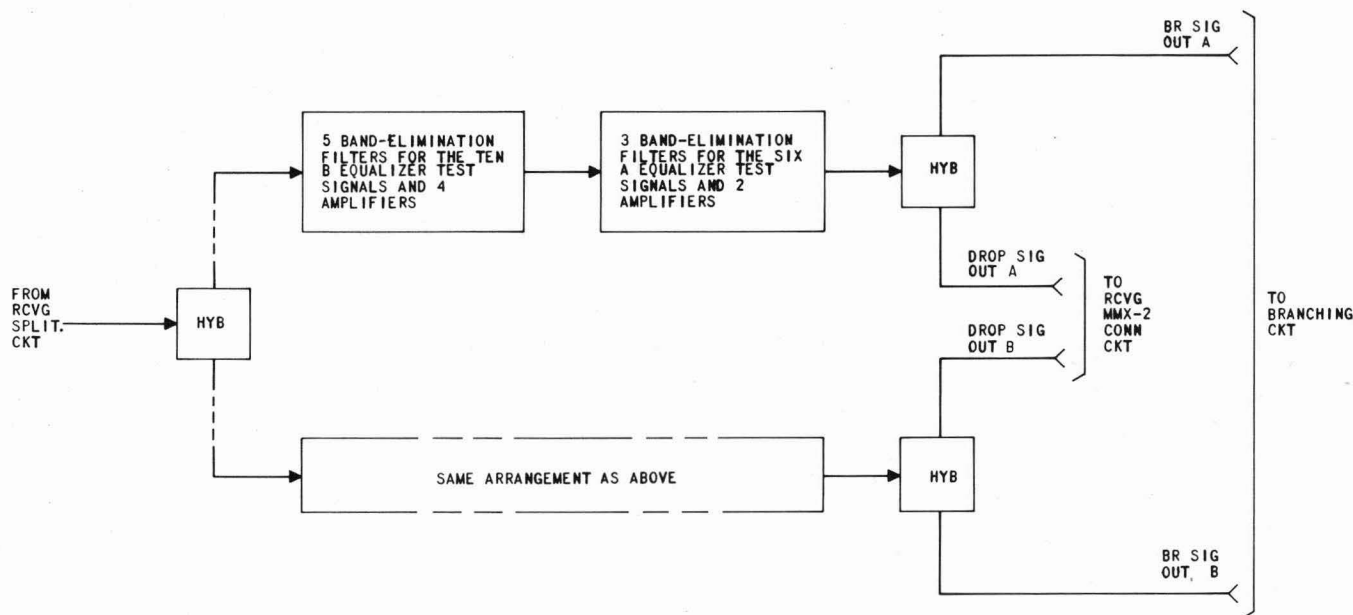

Fig. 12—Equalizer Test Signals Blocking Circuit
6.01 When equalizing an L4 line, equalizer test signals are applied at an equalizing or main station repeater upon command from a control center. An **equalizer test signals blocking circuit** (Fig. 12) is provided for a regular receive line where mastergroup branching and/or dropping is performed. This blocking circuit is required to prevent equalizer test signals from entering another line or system via the dropping or branching connection.